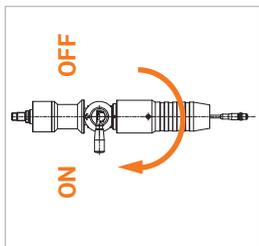

Figure 11
- ▶ Turn the actuation lever (Pos. 3) on the fueling nozzle through 180° to the ON position (*Figure 11*).